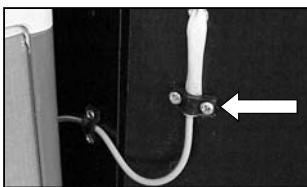

Figure 12.
3. Put the LED-holder (B) into the hole from outside.
4. Mount to insulation (C) with the LED cable and then, snap it to the LED-holder and fit the cable (Fig. 12).